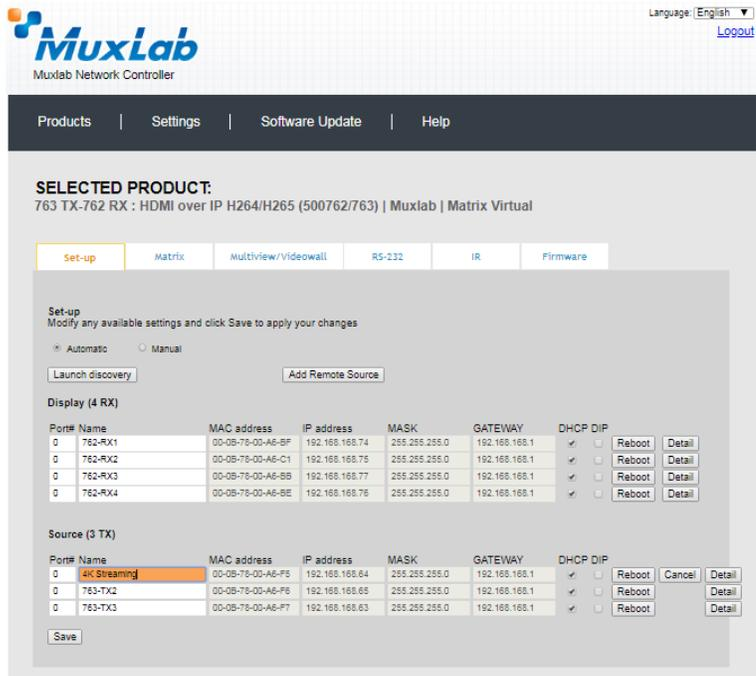

Figure 451: Name Editing
Each 500763 transmitter can be assigned an arbitrary descriptive name, normally reflecting the end device that it is terminated to. To change the name of any Display (RX) or Source (TX) device, click the **Name** field to edit its contents. Several **Name** fields can be edited before saving changes, as shown in Figure 451 (orange highlighted fields).